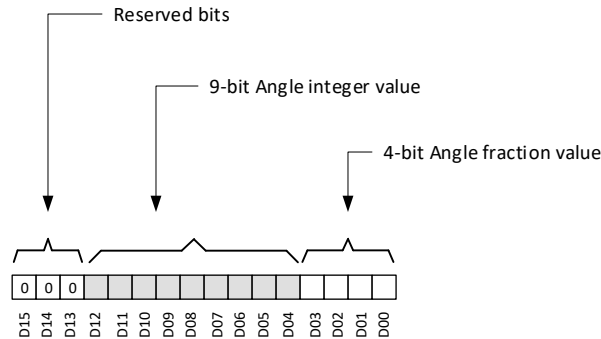

图 7-17. Angle Data Definition
The TMAG5273 calculates the angle from a pair of magnetic axes based off the ANGLE\\_EN register bits setting. 图 7-17 shows the angle information stored in the ANGLE\\_RESULT\\_MSB and ANGLE\\_RESULT\\_LSB registers. Bits D04-D12 store angle integer value from 0 to 360 degree. Bits D00-D03 store fractional angle value. The 3-MSB bits are always populated as b000. The angle can be calculated using 方程式 14.
- Di is the data bit as shown in 图 7-17.